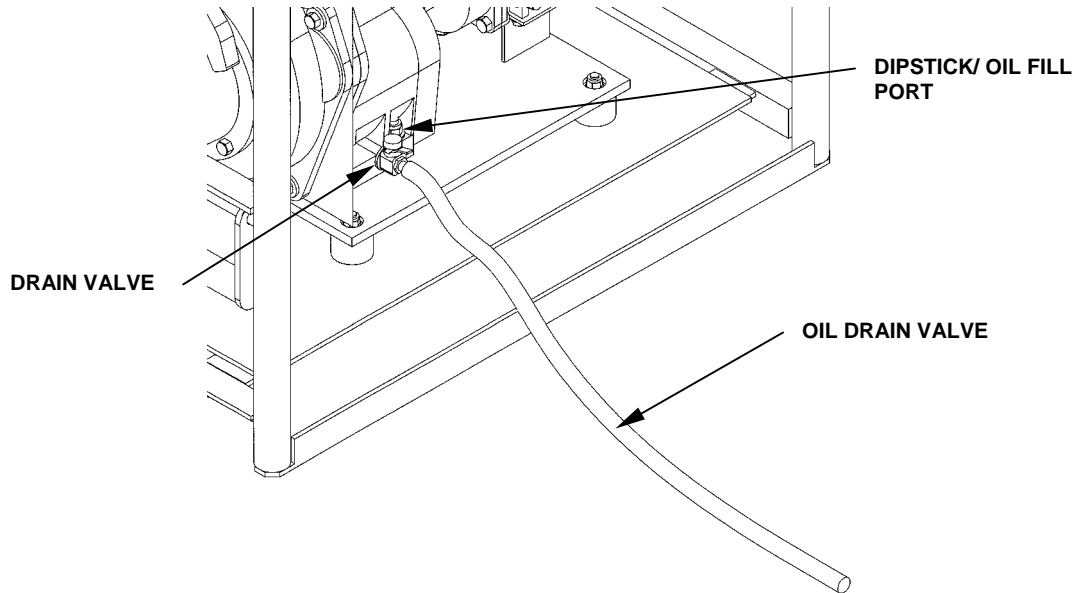

Figure 2. Draining Oil From Diesel Engine.
2. Retrieve hose from Basic Issue Items (BII) box. Install oil drain hose on drain valve. See Figure 2.